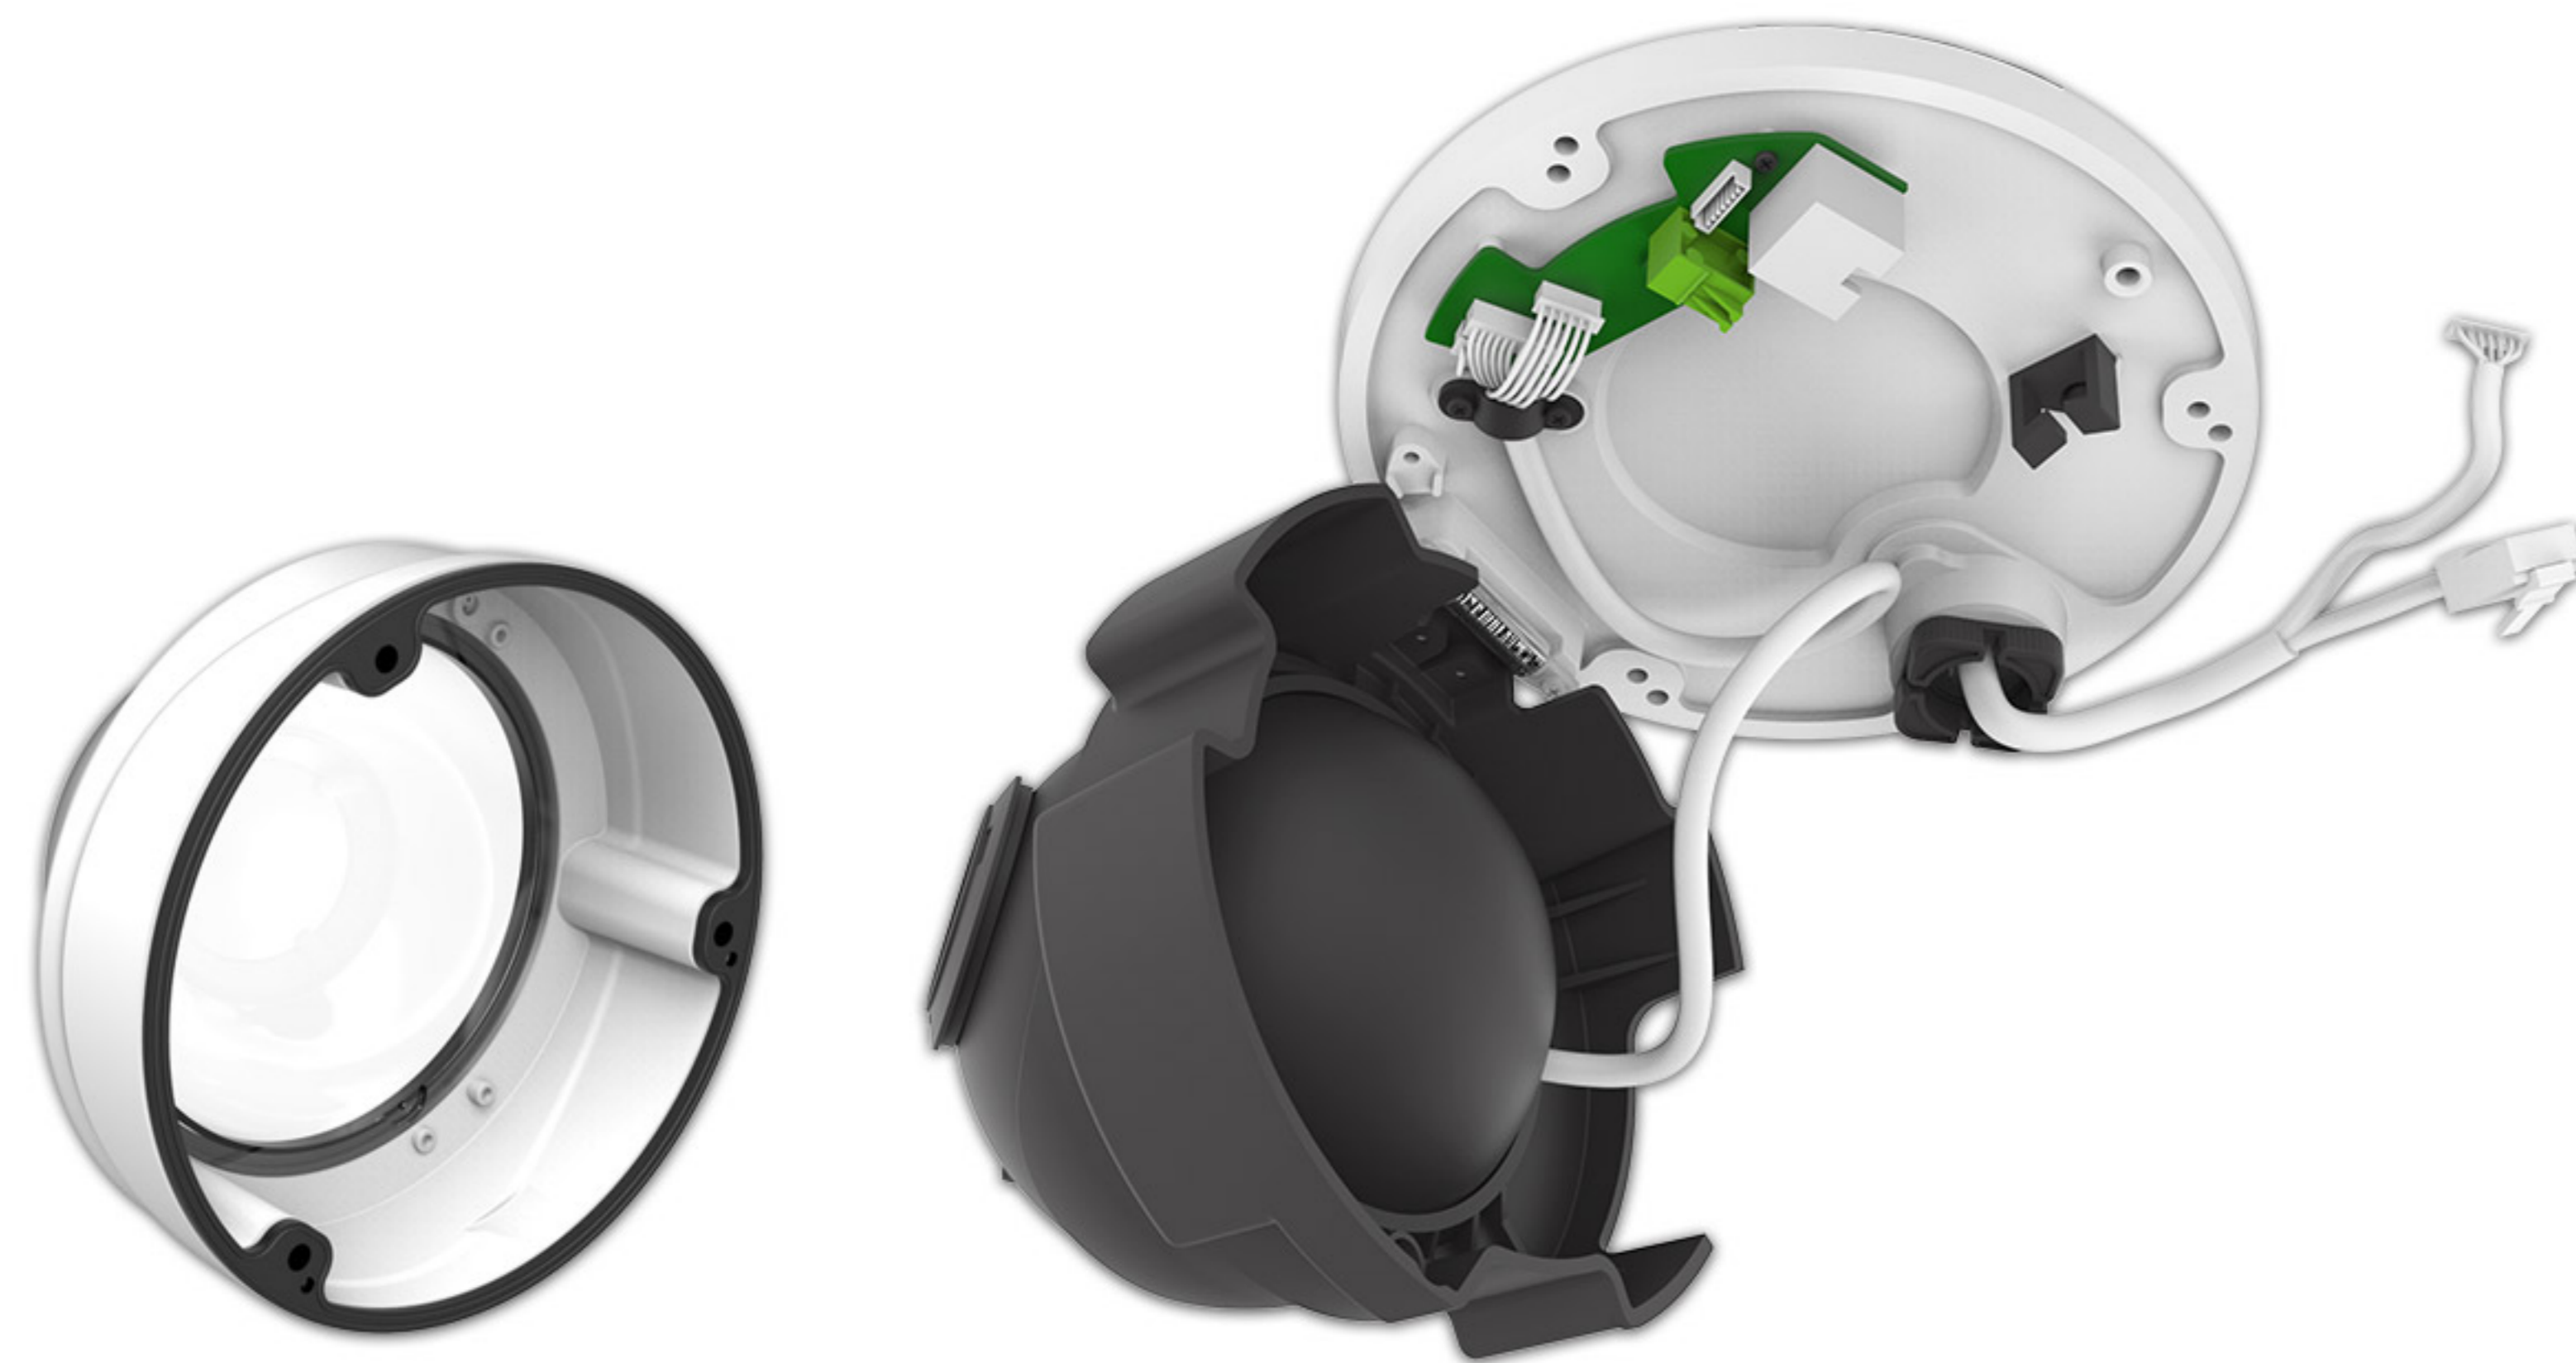

Figure 7
Step 4: Recombine the Black Rubber Bung and White Rubber Ring as a unit, then plug the Waterproof Connector tightly into the Cable Entry Hole (Figure 7);